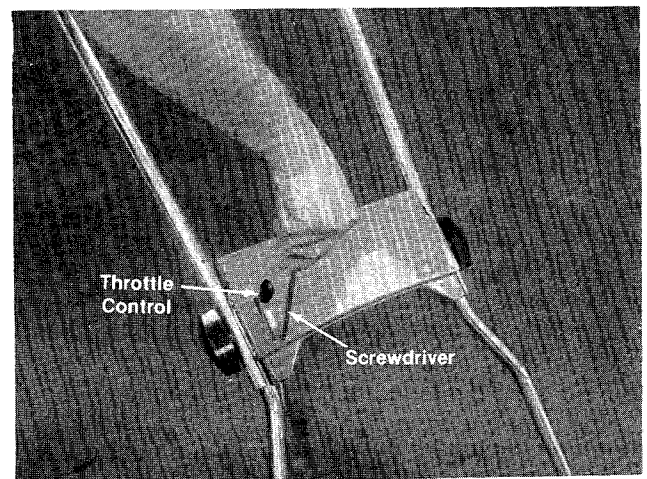

FIGURE 4.
7. Place the throttle control in the handle panel and assemble it with two throttle screws using a screwdriver. See figure 4.